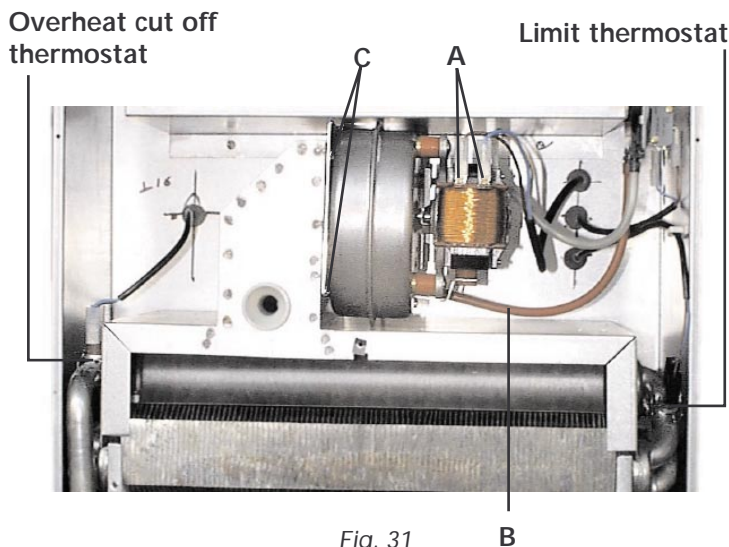

Fig. 31
7.11 Removal of fan (fig. 31)
7.12 Limit thermostat, or overheat cut off thermostat (fig. 31)
- Identify the location of thermostat from fig. 31